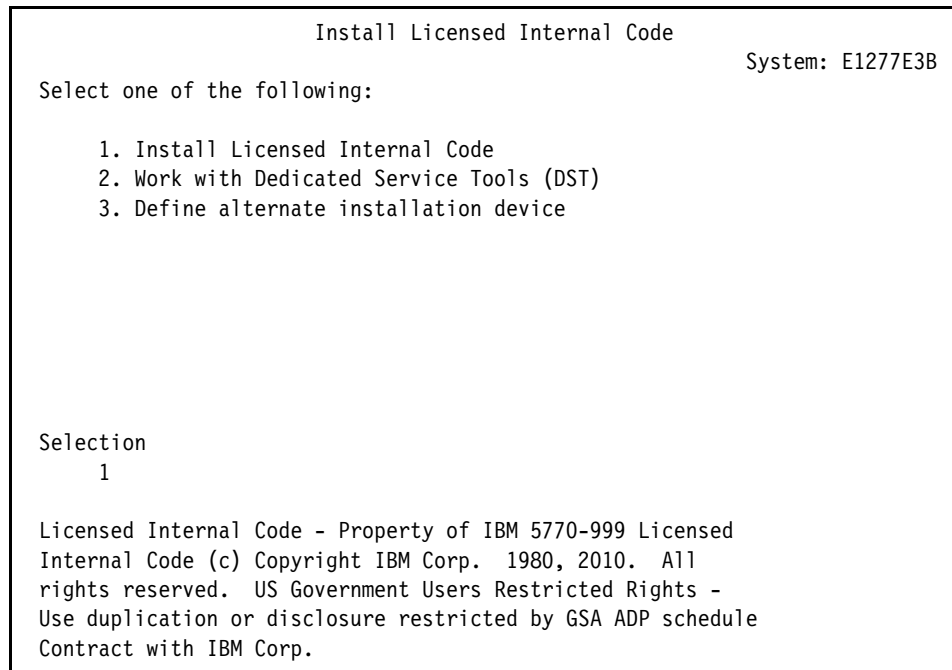

Figure 11-15 Install License Internal Code console menu
5. The Install License Internal Code (LIC) window opens. Select **Option 1** to install the LIC, as shown in Figure 11-15.